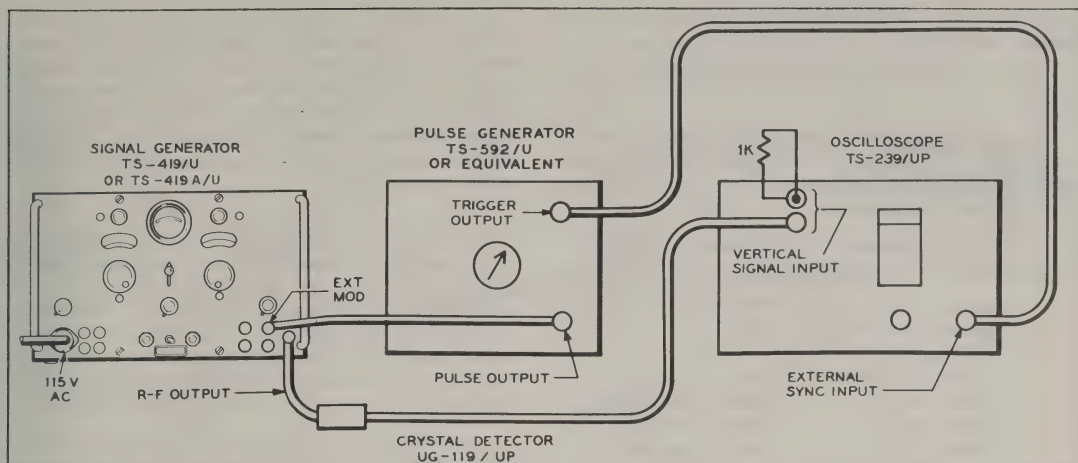

Figure 4-8. Test Connection Diagram for Measurement of External Modulation Performance
(1) Connect the required test equipment as shown in figure 4-8. Turn the equipment on and allow a 20-minute warm-up period to insure complete stabilization.
(2) Set the Pulse Generator TS-592 U, or equivalent, to produce a negative pulse of 40 volts amplitude and 10 microseconds width.
(3) Set the signal generator controls as follows: